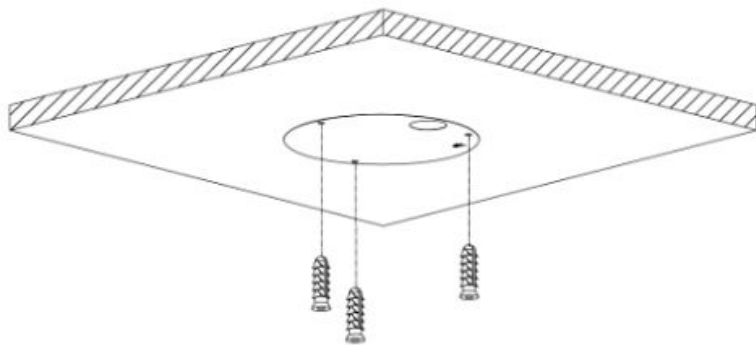

Figure 2-2
Step 2 Install the included plastic anchor screws. See Figure 2-2.